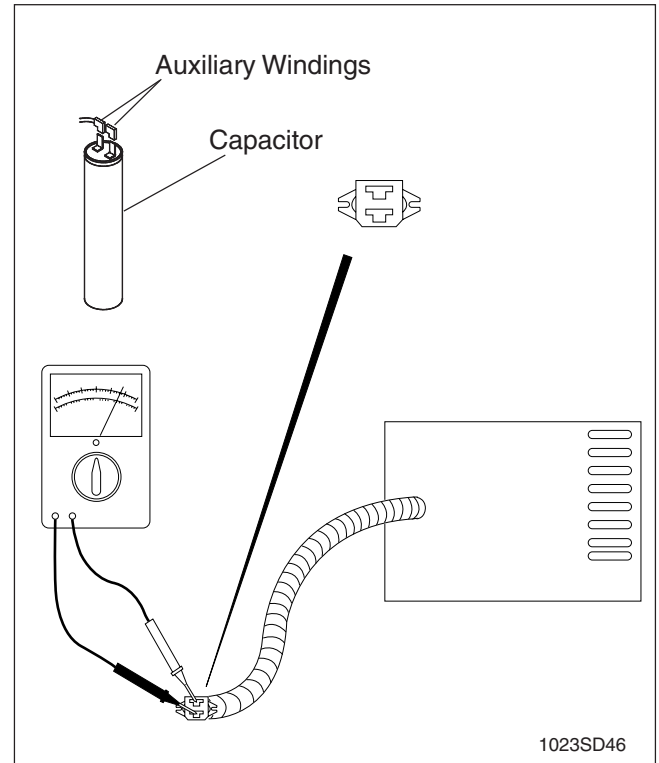

Figure 4-8. Stator Winding Testing
3. Set ohmmeter to lowest scale. Place meter leads on connector terminals as shown and record resistance values, see Figure 4-8.